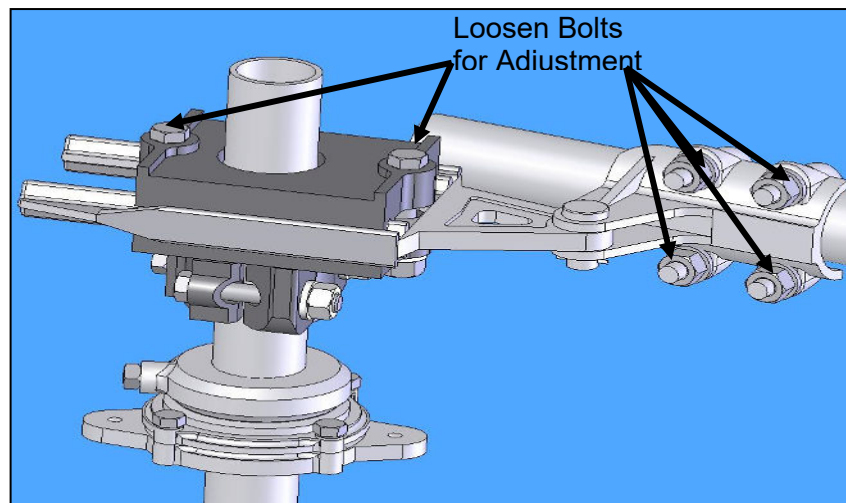

Figure 16: Adjustable Arm Assembly
- 4.3. If the switch **does not** fully open before the operator reaches the fully open position, the adjustable arm radius is too short. Close the switch, match-mark the adjustable arm and the pipe clevis, and loosen the bolts on the adjustable arm and pipe clevis. ***Lengthen the adjustable radius arm approximately 1/4". Allow the pipe clevis to reposition itself the same 1/4".*** Refer to **Figure 16**. Test operation and readjust as necessary.
- 4.4. If the switch is fully open before the operator reaches the fully open position, the adjustable arm radius is too long. Close the switch, match-mark the adjustable arm and the pipe clevis, and loosen the bolts on the adjustable arm and pipe clevis. ***Shorten the adjustable radius arm approximately 1/4". Allow the pipe clevis to reposition itself the same 1/4".*** Refer to **Figure 16**. Test operation and readjust as necessary.